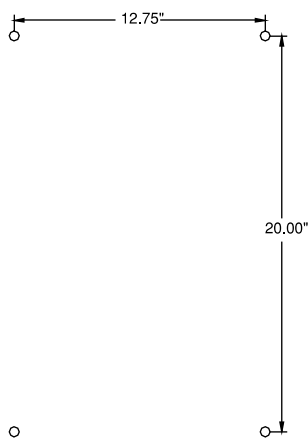

Figure 1
1. On a concrete pad or other stable mounting platform, drill 4 holes according to the mounting dimensions given in the diagram below. (Figure 1)